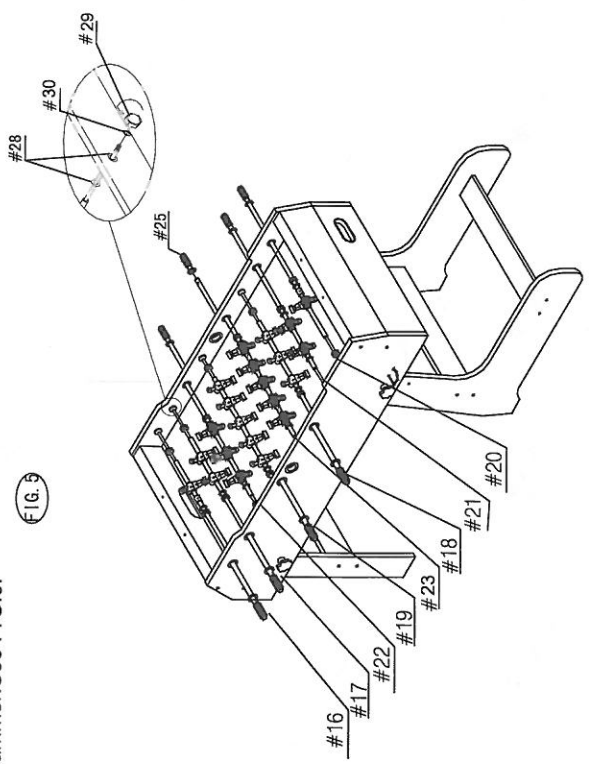

FIG. 6.
11) Put the Hand Grips (#25) on the player rods in order. NOTE: To make the Handles easier to attach, spray a little window cleaner on the rod ends prior to installation and tap on gently with a hammer. See FIG. 6.
12) Attach the two Scorers (#28) to the End Aprons using two of Flat Head Screws (#14) per Scorer. See FIG. 6.